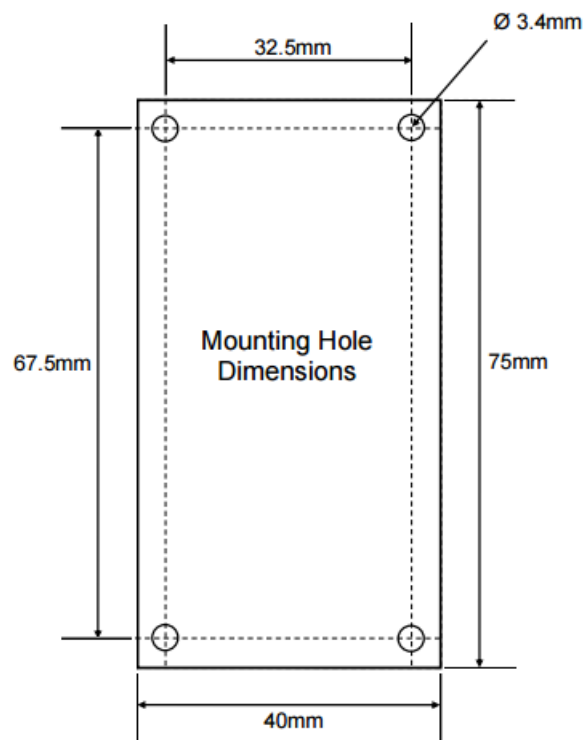

Figure 5-1 – Mounting Hole Positions
**NOTE:** The interface board must be securely fitted to a suitable mounting surface using the mounting holes provided; refer to Figure 5-1.